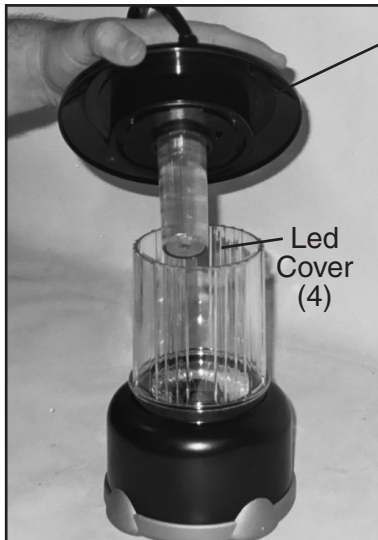

Figure 1
1. Turn the Solar Housing Lid (7) slightly counterclockwise. Remove the Solar Housing Lid (7) from the top of the Solar Lantern. *See Figure 1.*